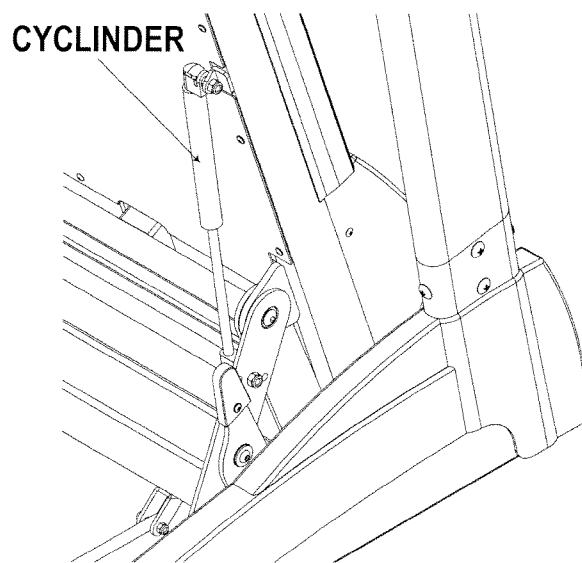

Figure 2
2. Keep all items away and avoid contact with the cylinder (Figure 2) as it may cause damage. If it is hit, the cylinder will not function smoothly and will not easily lower down when unfolding.